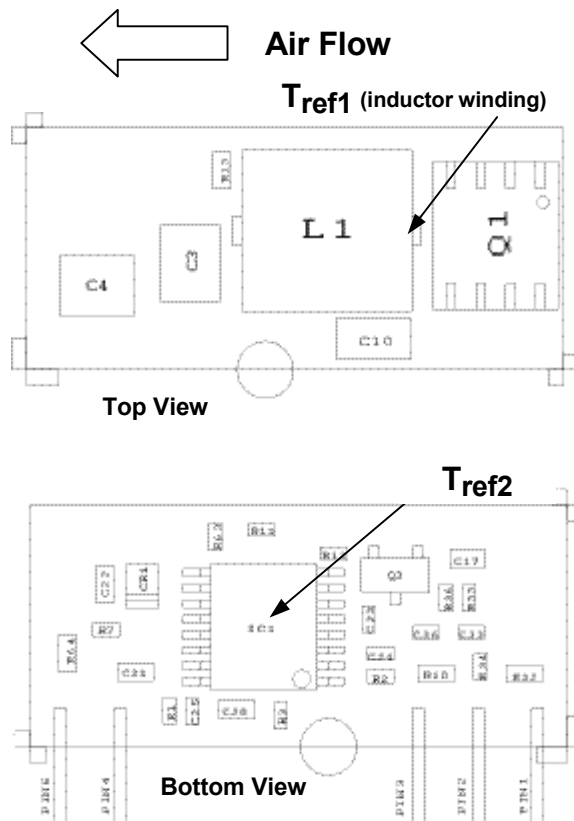
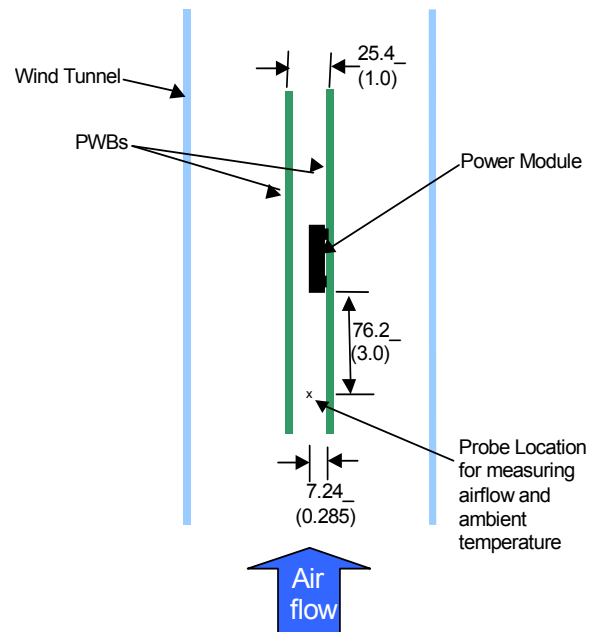

Figure 32.  $T_{ref}$  Temperature measurement location.
Figure 33. Thermal Test Set-up.
To provide over temperature protection in a fault condition, the unit relies upon the thermal protection feature of the controller IC. The unit will shutdown if the thermal reference point  $T_{ref2}$ , (see Figure 33) exceeds 140°C (typical), but the thermal shutdown is not intended as a guarantee that the unit will survive temperatures beyond its rating. The module will automatically restarts after it cools down.
Considerations include ambient temperature, airflow, module power dissipation, and the need for increased reliability. A reduction in the operating temperature of the module will result in an increase in reliability. The thermal data presented here is based on physical measurements taken in a wind tunnel. The test set-up is shown in Figure 33. Note that the airflow is parallel to the long axis of the module as shown in Figure 32. The derating data applies to airflow in either direction of the module's long axis.
The thermal reference point,  $T_{ref1}$  used in the specifications of thermal derating curves is shown in Figure 32. For reliable operation this temperature should not exceed 125°C.